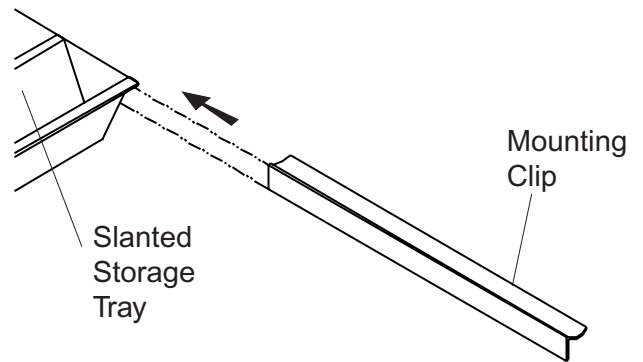

FIGURE 1
1. Slide the mounting clip hem up into the top back slot of the slanted storage tray. (Figure 1)